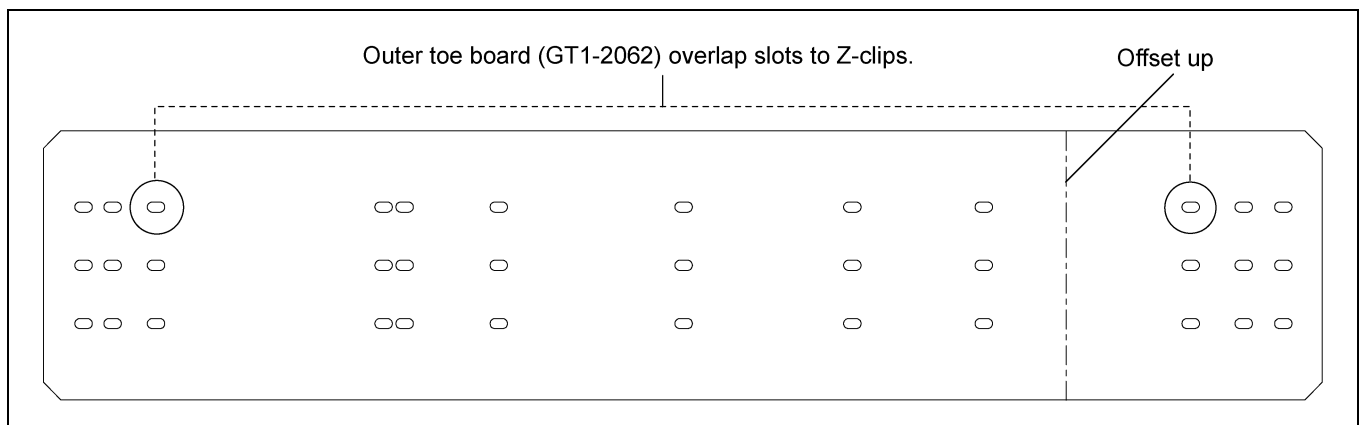

Figure 5E 12' Outer Toe Board (GT1-2062)
2. Outer toe board is arranged with overlap slots on each side. Install 12' outer toe boards (GT1-2062) to corresponding slots as shown in Figure 5E.